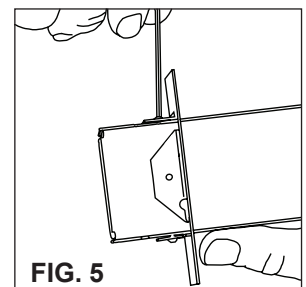

FIG. 5
2. Install a wall plate around pathway making sure that set screw flanges are facing towards the end of the device. Adjust position of wall plate so that device will be centered within the wall (Fig. 5). When properly adjusted, tighten set screws to lock plate onto pathway.